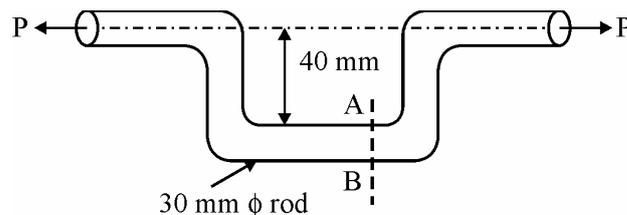

Fig. 4
- (d) A 30 mm dia. rod is bent upto form an offset link as shown in Fig. 4 if permissible tensile stress is 80 MPa. Determine the max. value of P.